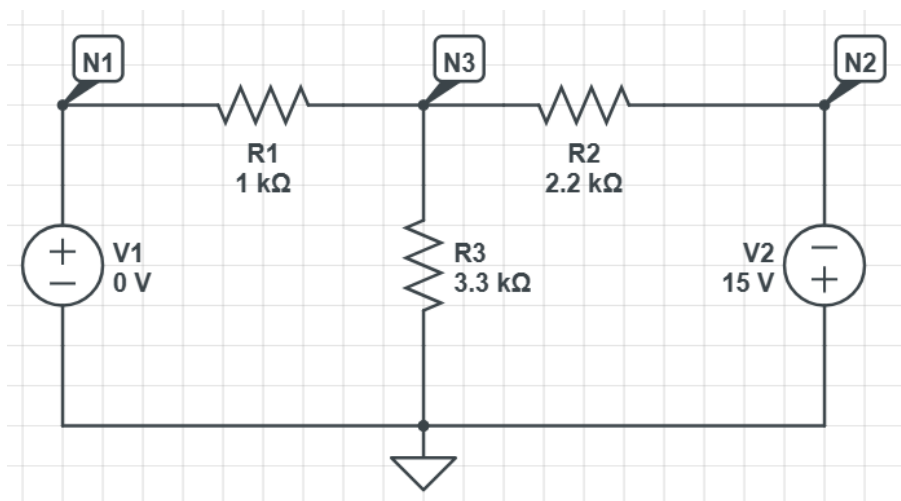

Figure 4.4.3: +15 V source is activated
1. Connect the circuit as shown in Fig. 4.4.3.